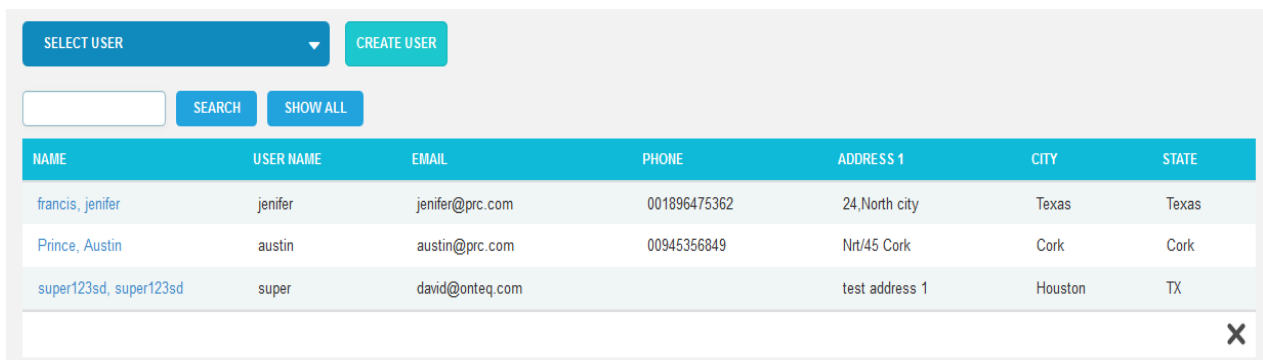

Figure 1.8
- Enter the name (which can be either first name or last name or both) or user name. Click the **SEARCH** button and select the required user. (Figure 1.8)
- The **SHOW ALL** button in the search area lists all users available. (Figure 1.8)